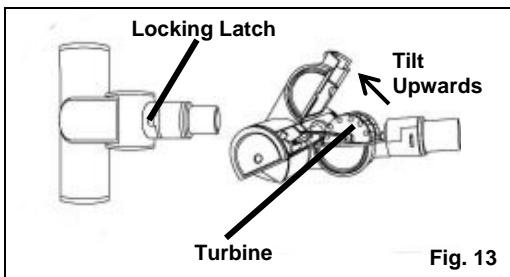

Fig. 12
2. Attach the pet hair power brush onto the flexible hose handle. (Fig. 12)